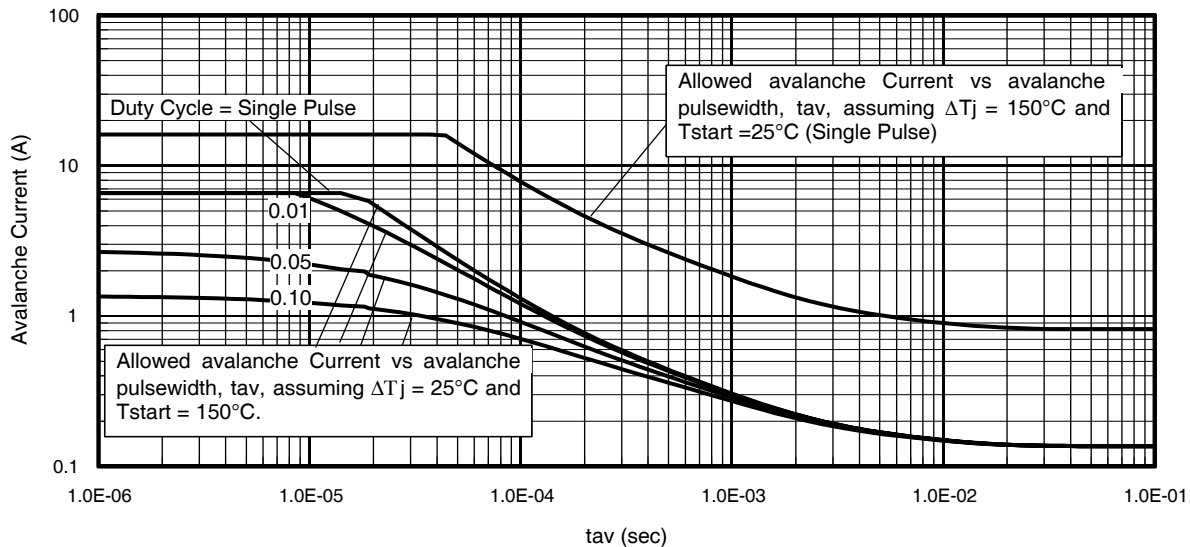

Fig 14. Typical Avalanche Current Vs. Pulsewidth
- ① Repetitive rating; pulse width limited by max. junction temperature. ④ R_{θ} is measured at T_J of approximately 90°C .
② Starting $T_J = 25^\circ\text{C}$, $L = 1.46mH$, $R_G = 25\Omega$, $I_{AS} = 10A$. ⑤ Limited by T_{jmax} . See Figs. 14, 15, 17a, 17b for repetitive avalanche information
③ Pulse width $\leq 400\mu s$; duty cycle $\leq 2\%$.
Notes on Repetitive Avalanche Curves , Figures 14, 15:
7. ΔT = Allowable rise in junction temperature, not to exceed T_{jmax} (assumed as 25°C in Figure 14, 15).